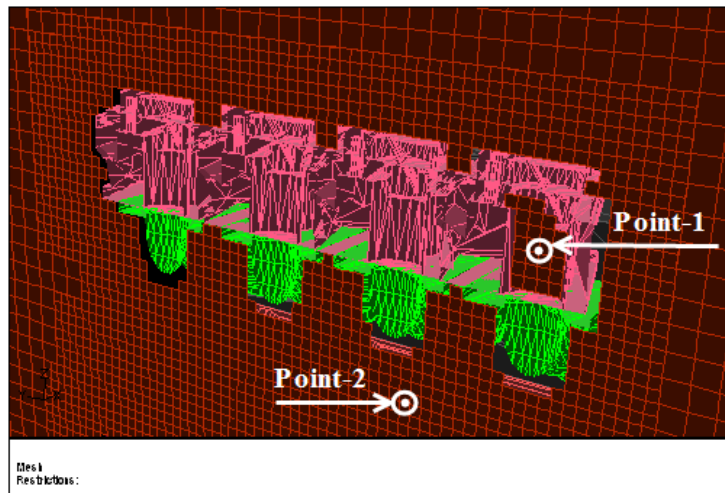

Figure 7.14: Detecting the Leakage using the Trace Path Panel
- iv. Disable All in the Region group box and set Region to 1 (Figure 7.14).
- ii. Click the Select Points... button and select two points as shown in Figure 7.14.